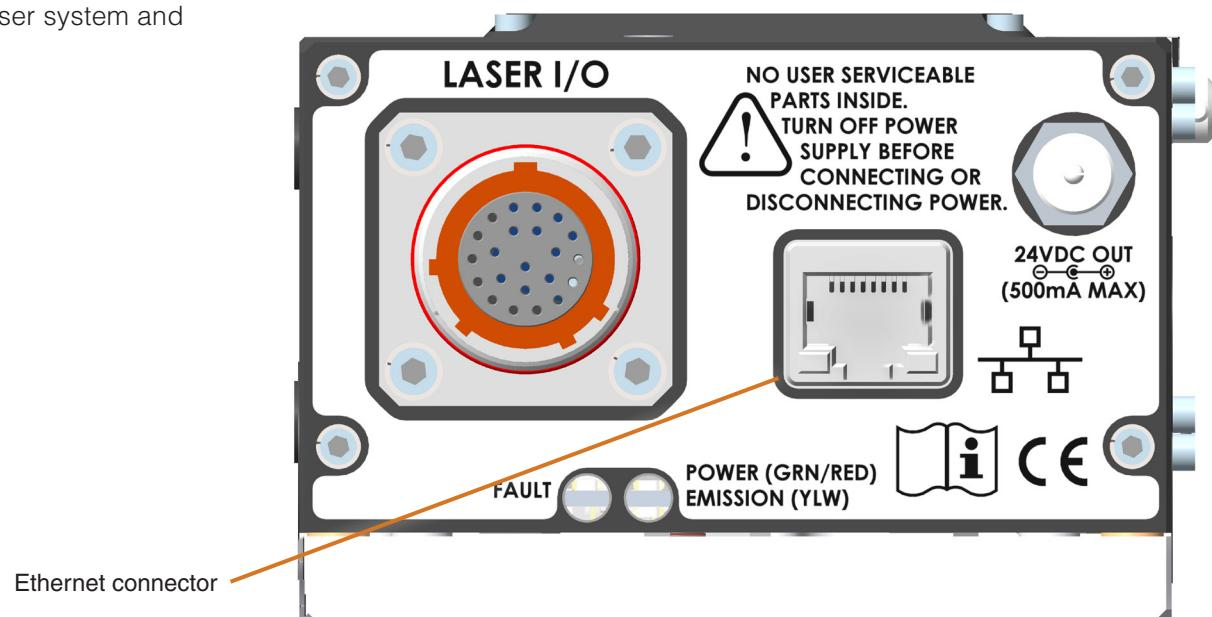

Figure 10: Ethernet Connector on Laser Head Rear Panel
1. Connect the Viron to your computer or network using the Ethernet connection on the Laser Head rear panel (see Figure 10).